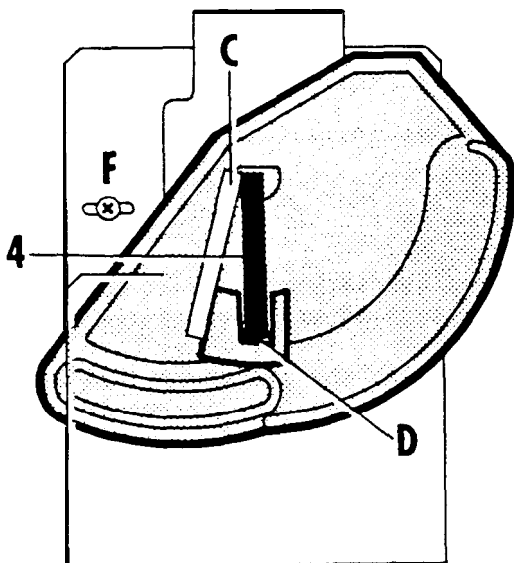

Fig. 15
4. Turn the lever "C" of the gas cock into vertical position "D" (see fig. 15).